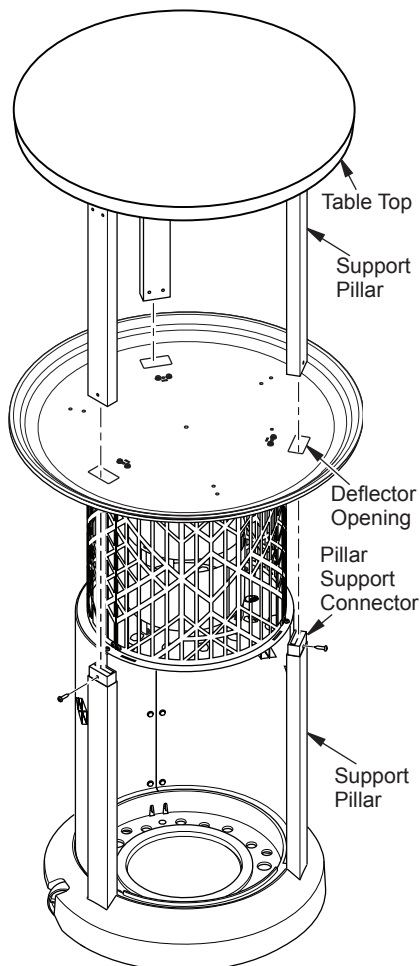

Figure 10 - Table Top Installation
17. Turn table support assembly right side up. Slide support pillars through openings in deflector assembly (see Figure 10). Position top support pillars over pillar support connectors. Secure each set with 1 screw (C) each (see Figure 10).